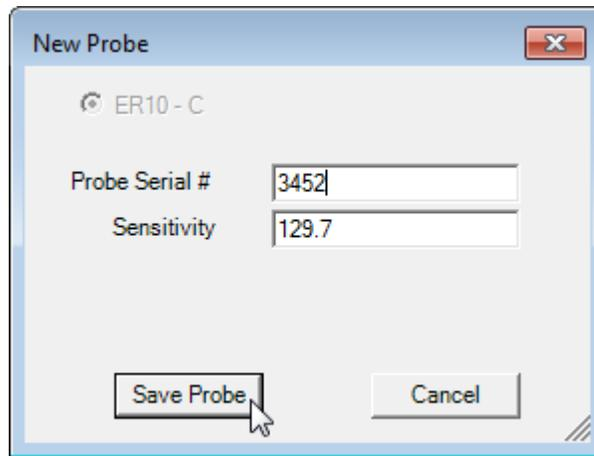

Figure 1.33: The **New Probe** window.
- To add a new probe, choose **New Probe**. The **New Probe** window appears (see Figure 1.33). ER10C probes are supported by HearID. Enter the probe serial number. The probe sensitivity is set at the factory for the probes delivered with your system. You may modify the probe sensitivity value, but should not do so unless instructed  to by your vendor, or if you have recalibrated the probe. Choose **Save** to save the probe settings.